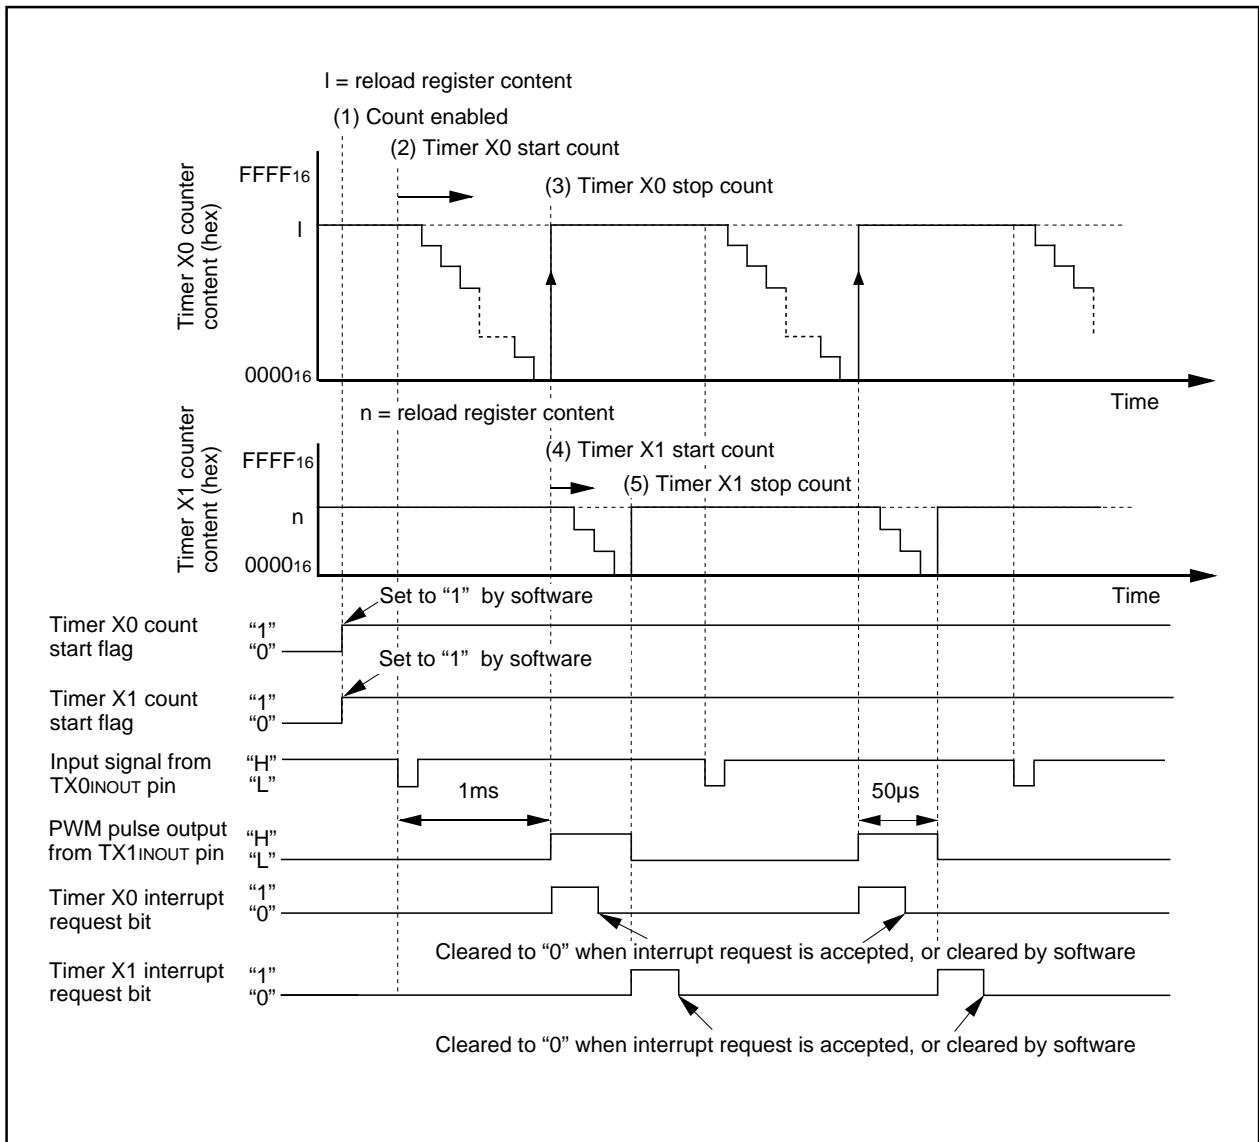
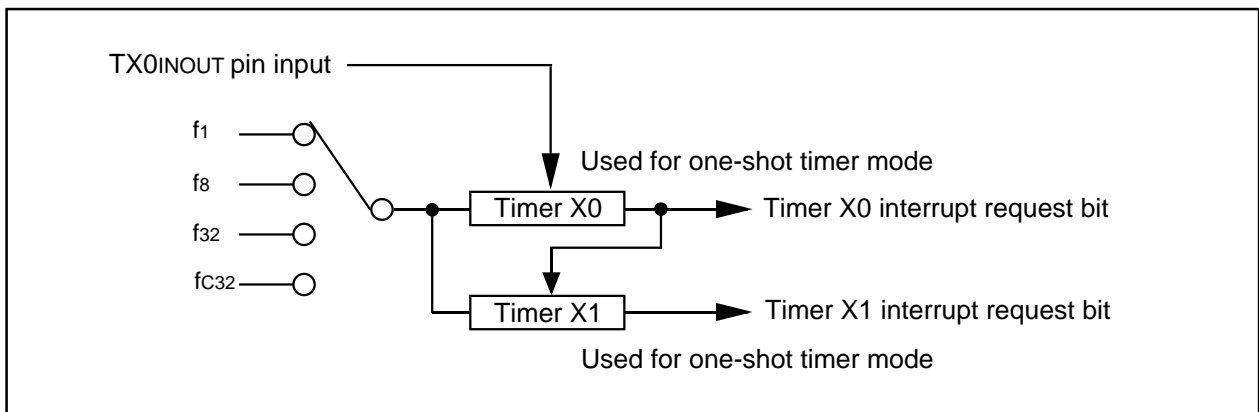
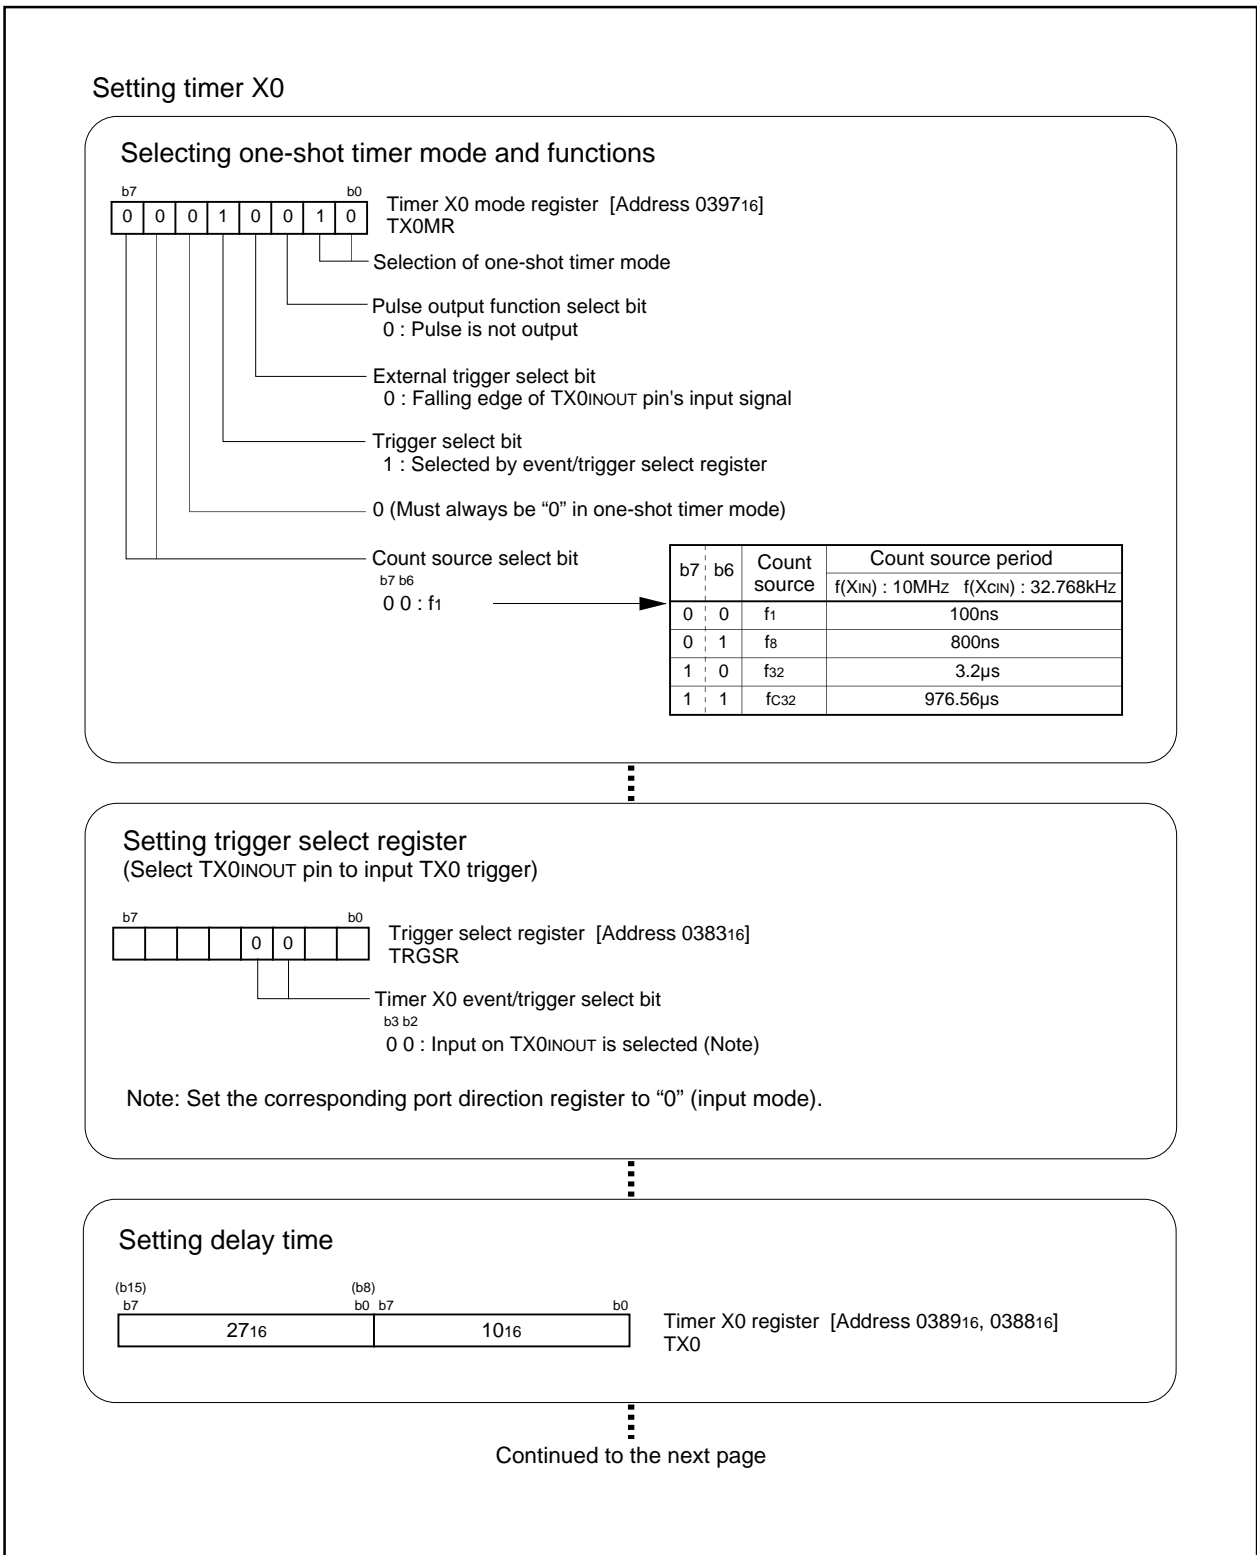

Figure 3.3.1. Operation timing of delayed one-shot output
Figure 3.3.2. Connection diagram of delayed one-shot output
Figure 3.3.3. Set-up procedure of delayed one-shot output (1)
**Overview** The following are steps of outputting a pulse only once after a specified elapse since an external trigger is input. Figure 3.3.1 shows the operation timing, Figure 3.3.2 shows the connection diagram, and Figures 3.3.3 and 3.3.4 show the set-up procedure.